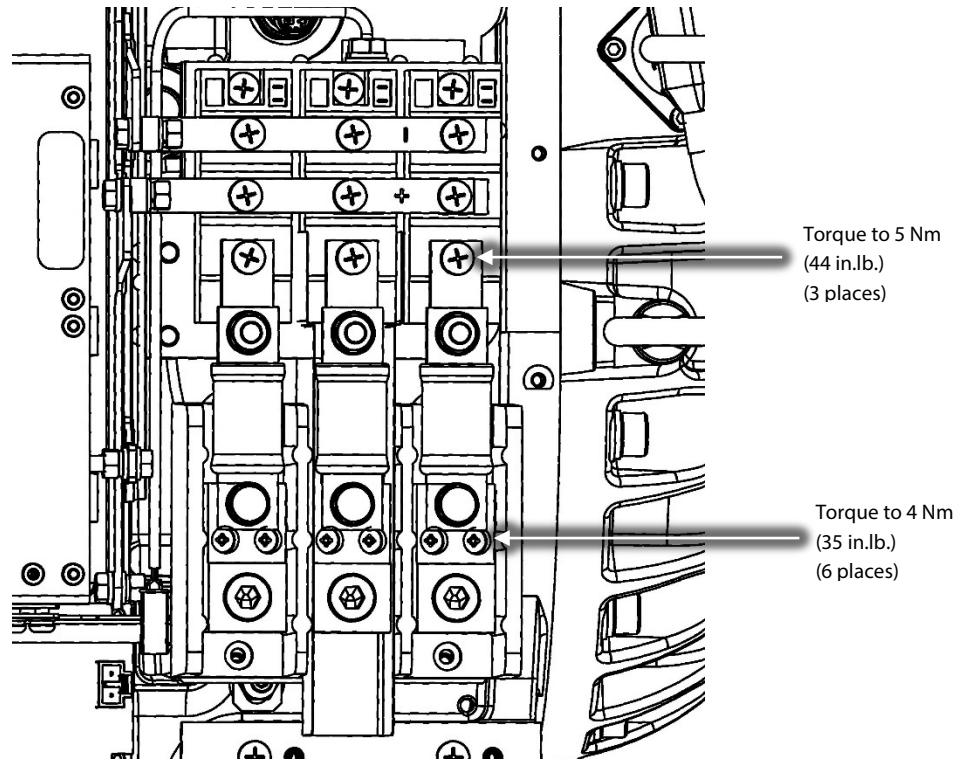
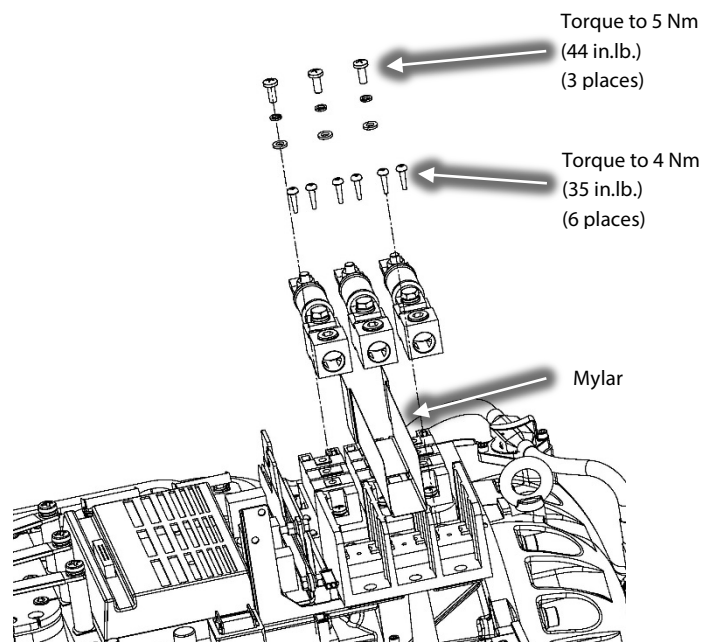

Figure 1 – Fuse Block Assemblies
Figure 2 – Fuse Block Removal
2. Remove the Mains input cover by releasing the four (4) captive screws that secure the Mains input cover and remove the cover.
3. Release the nine (9) captive screws that secure the Top cover and remove the cover.
5. Remove the three (3) fasteners that connect the Fast Acting Fuses to the SCRs and the 3-Phase input wires to the SCR Gate Cable harness. Refer to Figure 1 (Fuse Block Assemblies).
6. Remove the two (2) fasteners from each of the three (3) fuse block assemblies and set aside the fuse assemblies. Refer to Figure 1 (Fuse Block Assemblies) and Figure 2 (Fuse Block Removal).